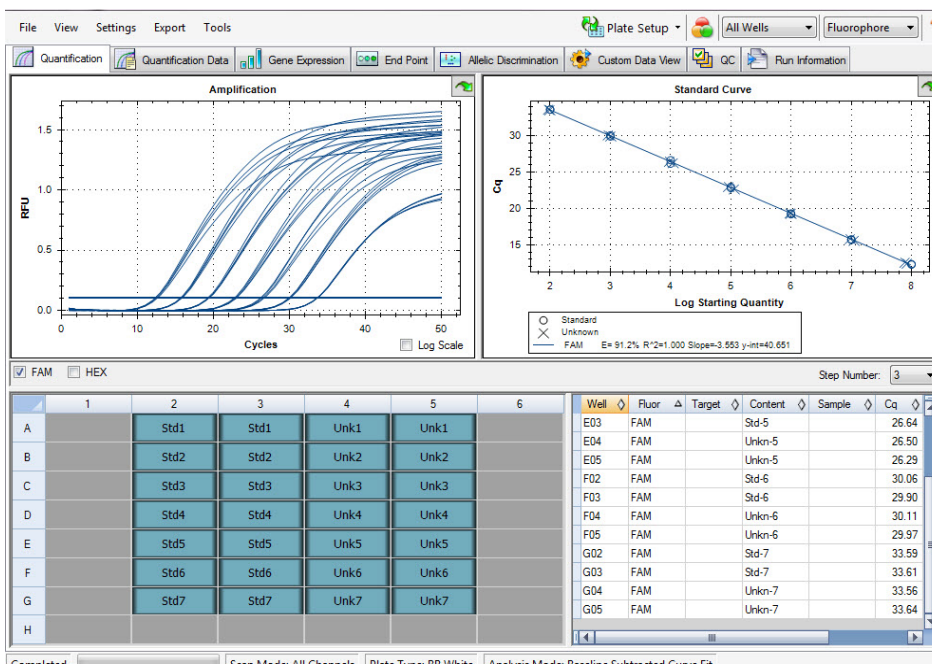

Figure 37. Layout for the Quantification tab in the Data Analysis window.
Each tab in the Data Analysis window displays data in charts and spreadsheets for a specific analysis method and includes a well selector to select the data you want to show. The Data Analysis window opens with the Quantification tab (Figure 37) in front. The **Amplification** chart data in this tab should be used to determine the appropriate analysis settings for the run.
1. Select one fluorophore in the fluorophore selector in the **Quantification** tab (Figure 37) by clicking the boxes next to the fluorophore name located under the Amplification chart.
1. Select a single fluorophore in the Quantification tab (Figure 37) by clicking the boxes next to the fluorophore name located under the Amplification chart.